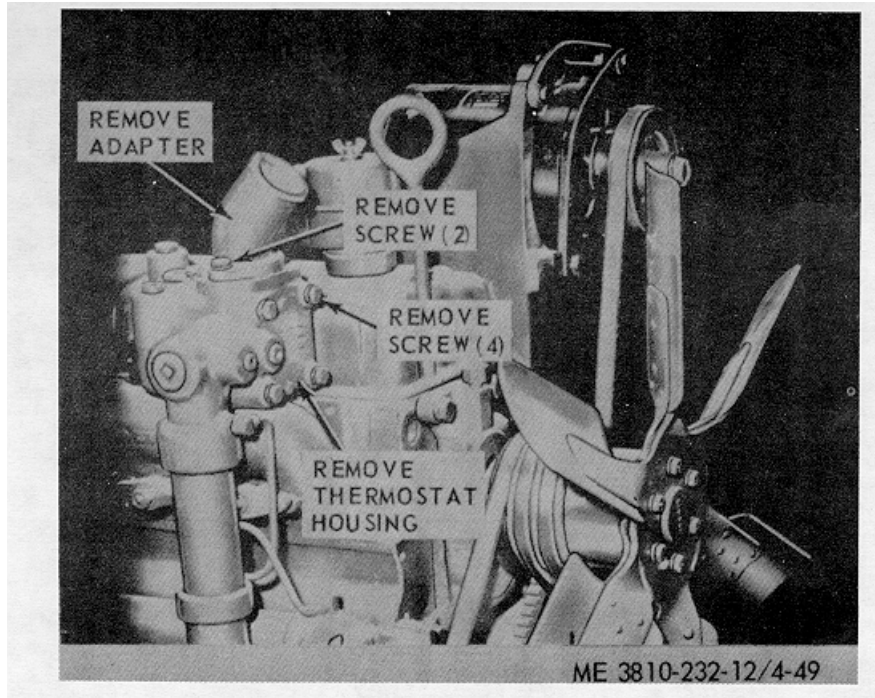

Figure 4-49. Crane engine thermostat housing, removal and installation.
- (1) Drain cooling system (para 3-21).
- (2) Remove thermostat housing as illustrated in figure 4-49.
- (1) Install thermostat in housing.
- (2) Install thermostat housing as illustrated in figure 4-49.